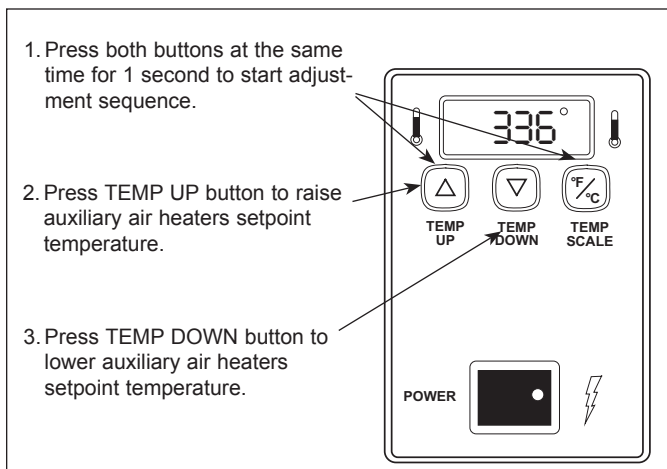

Figure 6. Adjusting Auxiliary air Heaters Setpoint Temperature
2. Press and hold both TEMP UP and TEMP SCALE buttons for over 1 second until the display flashes the setpoint temperature, then release (Figure 6).